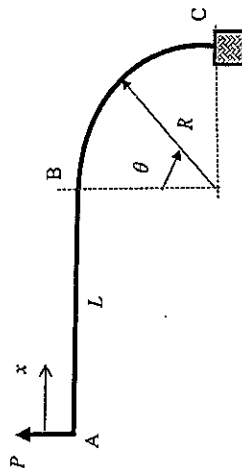

Figure 2
- (i) Determine the relationship between the applied force (F) with respect to the spring stiffness (k), angle (θ), the bar dimension, a , and b . Use the Principle of Virtual Work (PVW) method. Draw and specify your datum. Neglect friction and self-weight of the bars. (4 marks)
- (ii) Calculate the applied force F in Newton (N), if the angle, $\theta = 45^\circ$, the spring stiffness, $k = 50 \text{ N/m}$. The bar dimension, $a = 1.0 \text{ m}$, and $b = 2.0 \text{ m}$ respectively. (2 marks)
- (b) A welded beam ABC, has a horizontal segment of length, L , connected to a curved segment with radius R . The beam is fully fixed at point C, and has a vertical load P , applied at point A as shown in Figure 2. The deflection and rotation at any point of the beam can be calculated using the Unit Load and Unit Moment method.